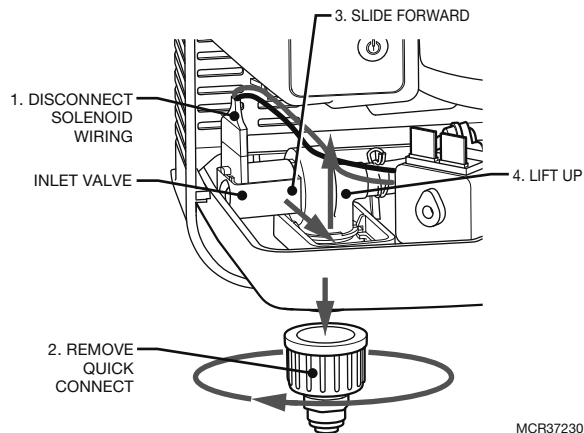

Fig. 32. Inlet valve replacement.
5. Disconnect the wiring to the solenoid. See Fig. 32